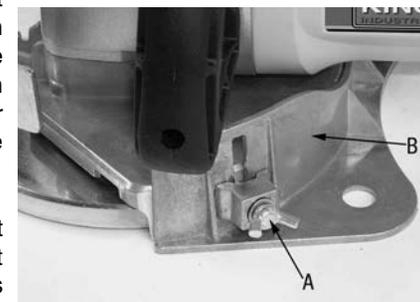

FIGURE 4
First determine the amount of material you need to remove from the bottom of the jamb and draw a reference mark on it. Loosen the 2 locking wing nuts (A) Fig.4 which hold the height adjustment base (B). Place the height adjustment base on the floor and adjust the saw so the **top** of the blade is even with the reference mark. You can also measure the distance from the floor to your reference line and adjust the position of the height adjustment base.